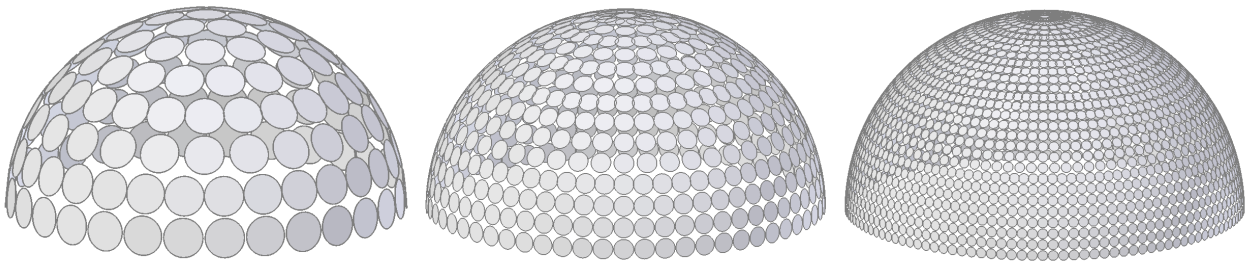

Figure 17: Sky View Patches (Tregenza, Reinhart 577, Reinhart 2305)
- Sky patches - this controls the resolution of the sky patches for the view factor analysis (figure 17)